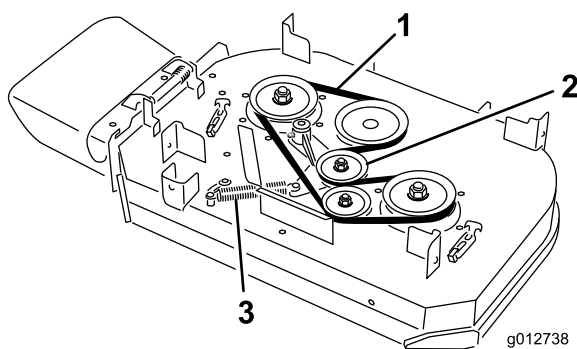

Figure 62
4. Remove the spring from the anchor post on the idler pulley arm (Figure 62).
5. Remove the worn mower belt (Figure 62).
6. Install the new mower belt around the clutch pulley, deck pulleys and idler pulley (Figure 62).
7. Install the spring onto the anchor post on the idler pulley arm (Figure 62).
6. Install the new mower belt around the deck pulleys and idler pulley (Figure 62).
5. Remove the spring from the anchor post on the idler pulley arm (Figure 62).
6. Remove the worn mower belt (Figure 62).
7. Install the new mower belt around the deck pulleys, clutch pulley and idler pulley (Figure 62).
8. Install the spring onto the anchor post (Figure 62).